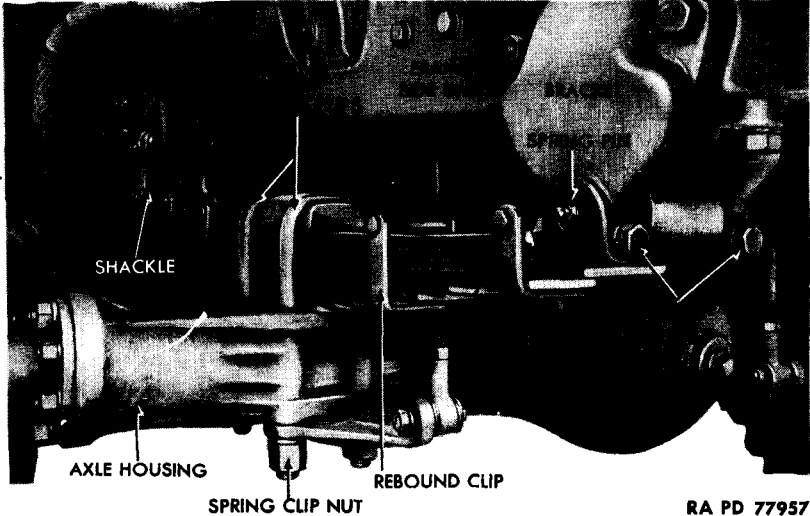
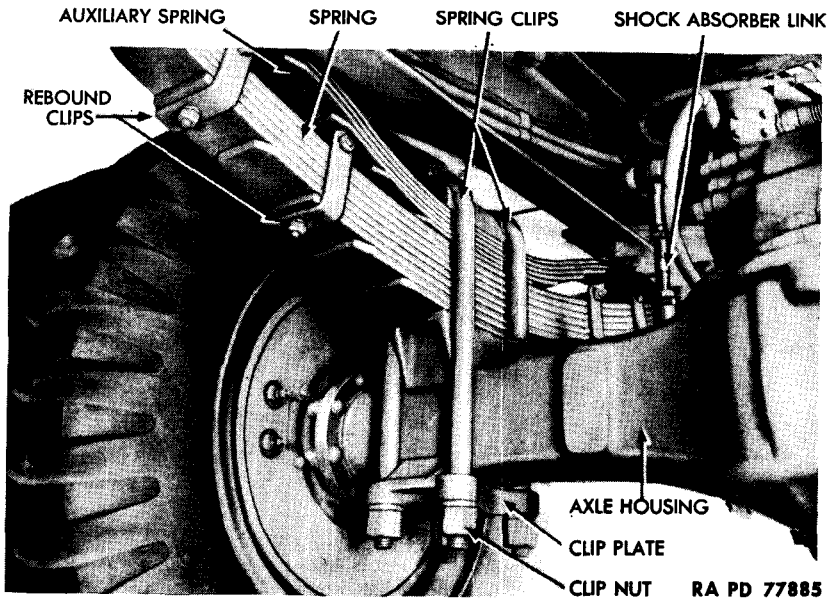

Figure 83 — Front Spring Installed
Figure 84 — Rear Spring Installed
a. **Description** (fig. 83). The front springs are attached to frame side rails and front axle housing. Two spring clips secure center of spring to housing. The rear of spring is attached to frame by a shackle, and the front is attached by a bracket.
b. **Removal** (fig. 83).
c. **Installation** (fig. 83).
a. **Description (fig. 84).** The rear springs are attached to frame side rails by a bracket at the front and a shackle at the rear. The springs are attached to axle housing by two spring clips which clamp center of spring to spring clip plate on housing. Auxiliary springs which help to carry heavy loads are mounted above rear springs, and contact special brackets attached to frame when rear springs flatten out.
b. **Removal (fig. 84).**
(4) REMOVE LUBRICATION FITTINGS. Unscrew fittings from outer side at each end of spring.
(5) REMOVE DRAW KEYS (fig. 83). Remove the four nuts and lock washers which secure the two draw keys at each end of spring, and drive out keys.
(6) REMOVE SPRING. Drive spring pins out from inner side of spring, and remove spring.
c. Installation (fig. 84).
(1) INSTALL SPRING. Position spring between shackle and bracket, and insert spring pins, slotted side down, from outer side of spring at each end. NOTE: Use new parts if old parts show wear.
(2) INSTALL DRAW KEYS. Wedge draw keys at each end against slotted side of pin, and secure with the four nuts and lock washers. NOTE: Use new draw keys and nuts.
(3) INSTALL LUBRICATION FITTINGS. Screw fittings into outer side at each end of spring.
(4) INSTALL SPRING CLIPS. Position clip seat and clips to spring and clip plate on axle housing, and secure with the four lock washers and nuts.
(5) CONNECT SHOCK ABSORBER (par. 138).